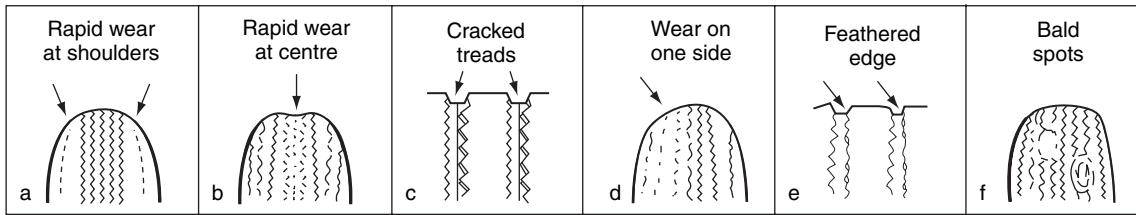

Fig. 8.38 Tyre tread wear patterns
- Figure 8.38 shows six examples of tyre wear problems. State a probable cause for each case.